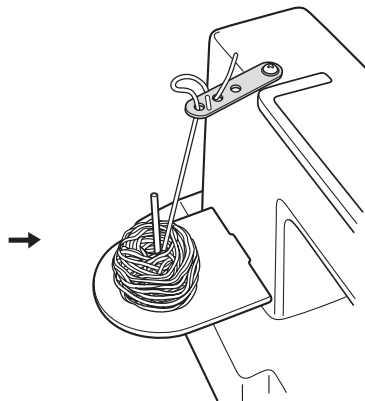

Fig. 2
4. Wrap yarn to the underside of yarn & ribbon guide and insert into the second hole as shown in Fig. 2.